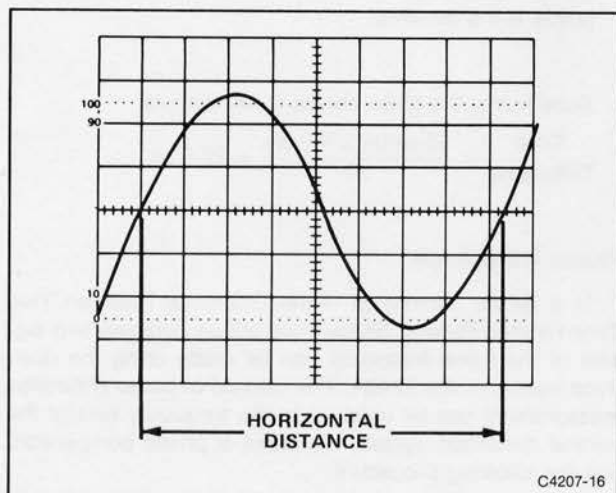

Figure 4-5. Time duration.
5. Position the display to place the time-measurement points on the center horizontal graticule line (see Figure 4-5).
EXAMPLE: The distance between the time measurement points is 8.3 divisions (see Figure 4-5), and the A SEC/DIV switch is set to 2 ms per division. The X10 Magnifier is off (knob in).
EXAMPLE: The signal in Figure 4-5 has a time duration of 16.6 ms.